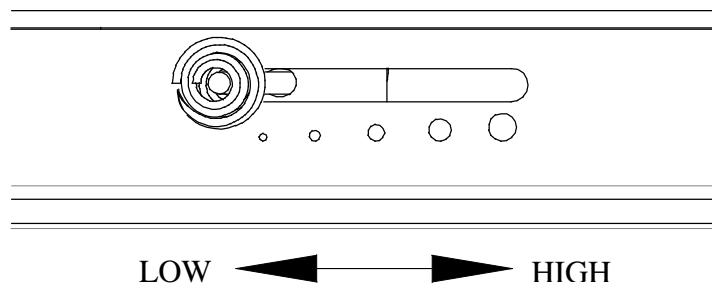

Figure 2.1 Draft control
4. Open the draft control fully to the right (located on the front of the stove, Figure 2.1)